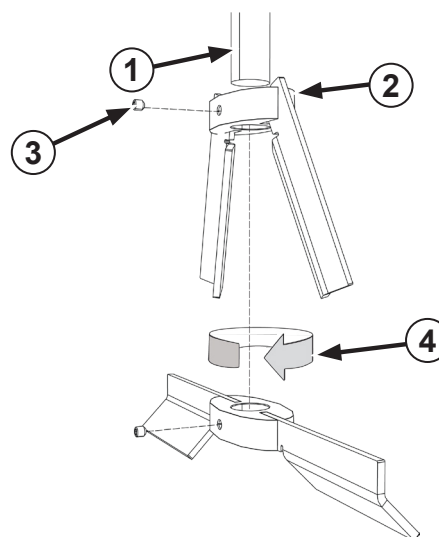

Figure 10. Folding Impeller
1. Install the FLP (2) into the shaft (1) noting the specific orientation, see rotation (4) in Figure 10. Folding Impeller.
2. Secure with a set screw (3) and tighten to specification.